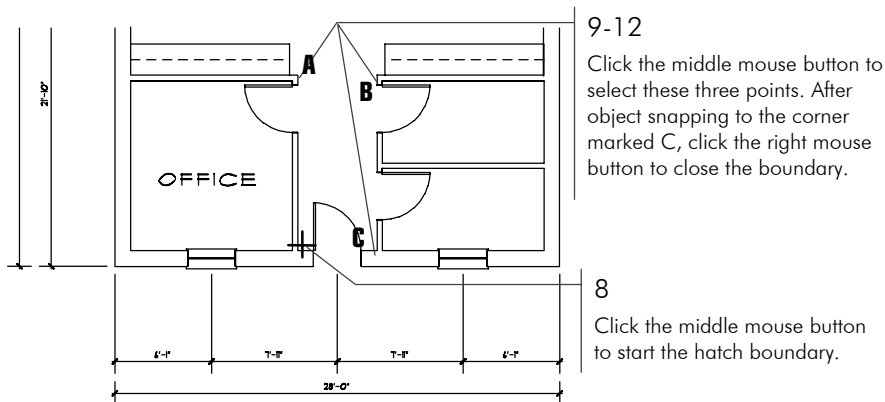

Figure 4.17: Selecting a hatch boundary
9. Move the cursor upward, and click the middle mouse button to object snap to the corner marked A with. (See Figure 4.17)